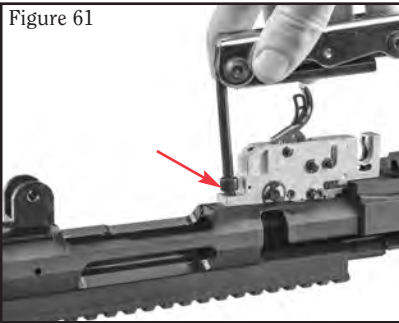

Figure 61
1. Using a 3/16" Allen wrench remove the bolt at the front of the trigger assembly. (See Figure 61.)
- c. Using a 3/16” Allen wrench, tighten the front trigger assembly screw. (See Figure 61, p. 43.)